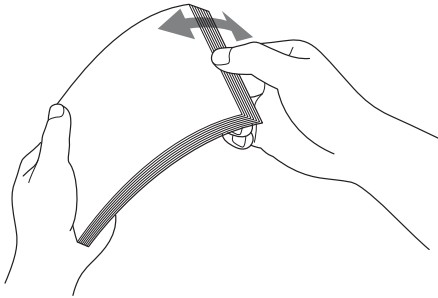

Figure 3.12
- 2 Flip through the print sheets together with the protective sheet (see Figure 3.12).